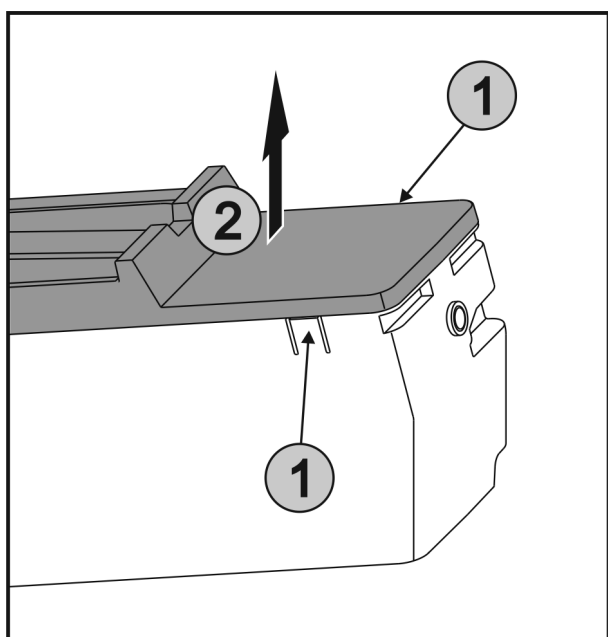

Fig. 38
- Press the lugs Fig. 38 (1) on both sides of the EasyTwist-Ice simultaneously and take off the cover Fig. 38 (2) upwards.